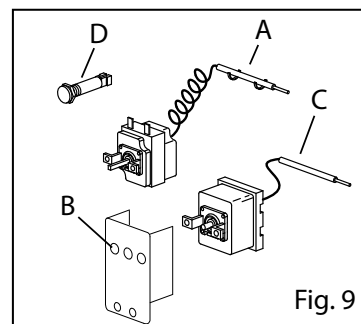

Fig. 9
- Remove the bulb from the support (Fig. 9/A)
- Unscrew the THERMOSTAT from the support (Fig. 9/B)
- Remove the bulb from the support (Fig. 9/C)
- Fit the new bulb (Fig. 9/D)